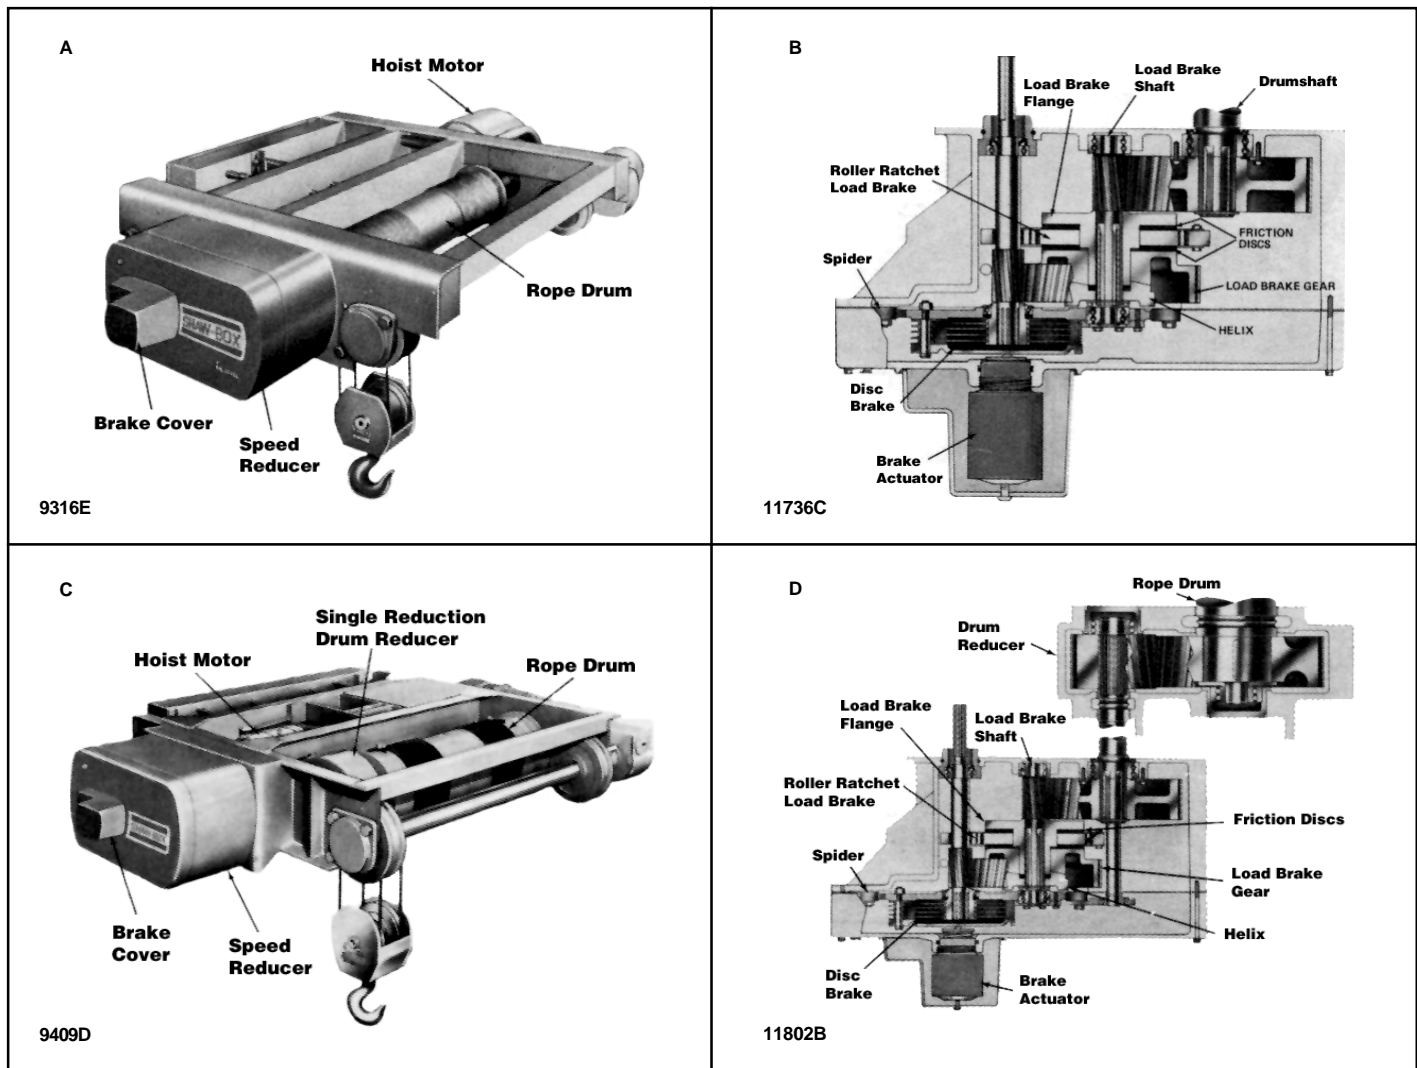

Figure 8-1. Hoist Machinery Arrangements
Standard hoist drives can be classified into two configurations which are described as follows and shown in Figure 8-1.
a. **General.** Hoist speed reducers have vertically split housings with the housing bolted to the trolley sides. This type reducer is shown in Figure 8-1B and 8-1D. This double reduction unit is usually equipped with a cast aluminum housing and helical gearing. Shafts are carried on ball bearings. A spider bolted to the gear case housing forms the support for one end of each shaft. The units shown are equipped with a roller ratchet type of mechanical load brake. As shown in Figure 8-113, this gear case is also used in conjunction with a drum speed reducer. This drum reducer is welded to the trolley side as shown in Figure 8-1 D.
**b. Construction.** Refer to Figure 8-1. A roller-ratchet type load brake is used on hoists with speed reducers of the type shown in Figures 8-1A and 8-1C. As shown in Figure 8-1B, the roller-ratchet brake is incorporated on the shaft next to the input (high speed) shaft and consists of the load brake flange, friction discs, load brake ratchet, gear with helix machined into the face of the hub and the helix which is splined to the shaft, all assembled as shown.
- (4) Pull off brake helix (see Figure 8-1 B).